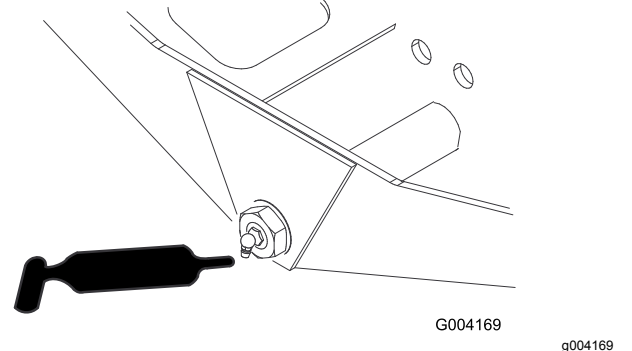

Figure 79
- Axle-steering pivot (1) (Figure 79)